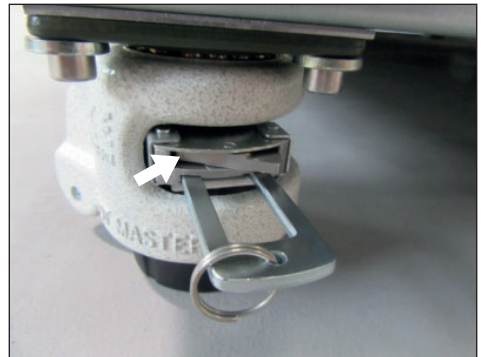

Fig. 12 To retract the stand, press in the left-hand rocker
- ▶ Press in the rocker on the left side to retract the stand with the ratchet lever (Fig. 12).